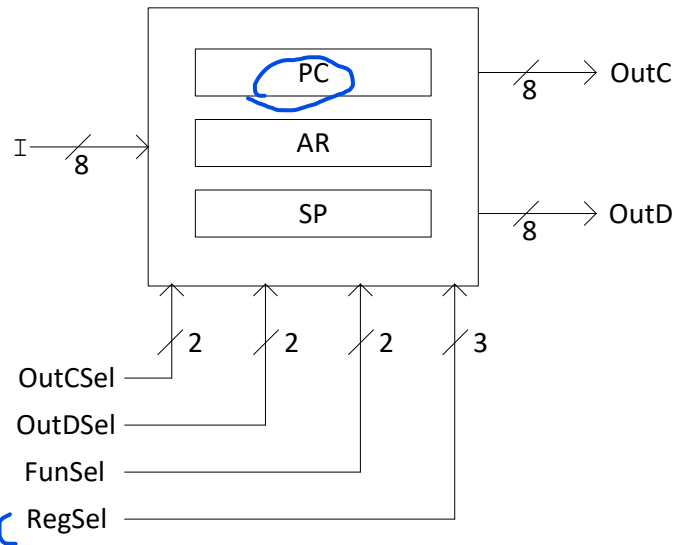

Figure 6: 8-bit address registers, inputs, and outputs
(Part-2b) Design the **address register file (ARF)** system shown in Figure 6 which consists of three 8-bit address registers: **program counter (PC)**, **address register (AR)**, and **stack pointer (SP)**. FunSel and RegSel works as in **Part-2a**.